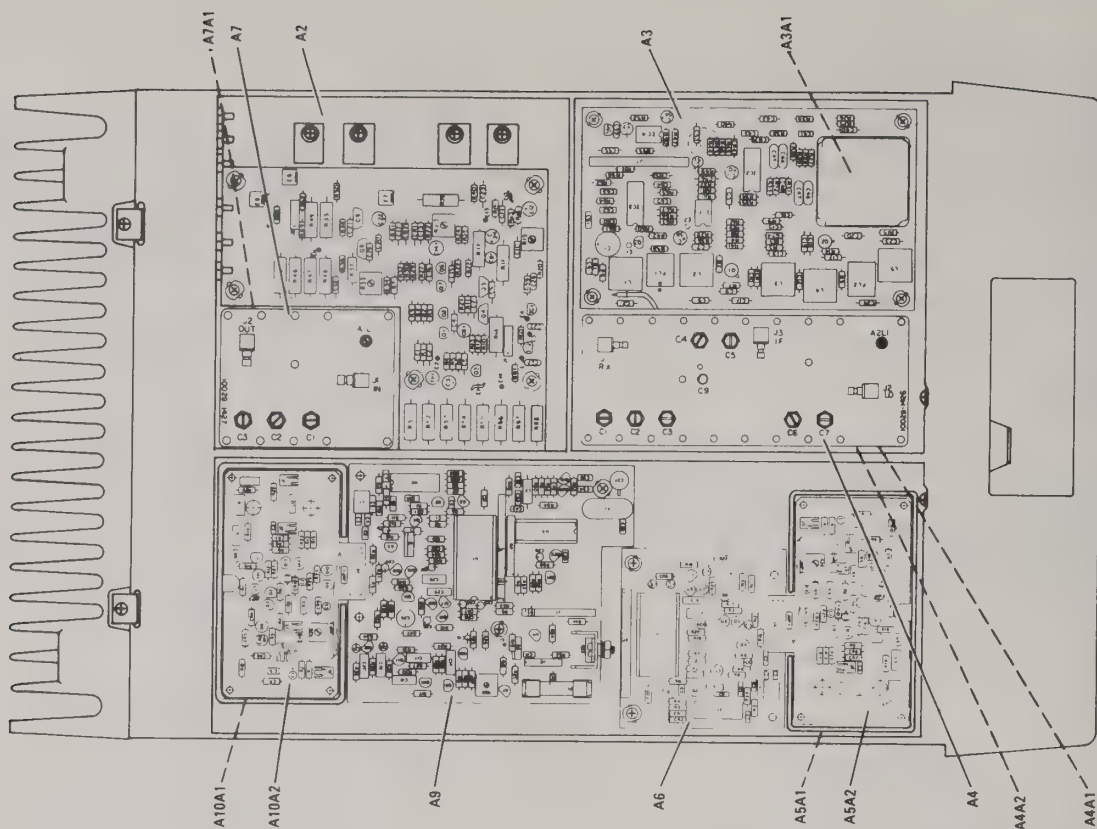

Figure 4-3. UHF Transceiver, Modules and Board Assemblies
4.03 Figures 4-3 and 4-6 identify and locate the Modules and Board Assemblies in the UHF and VHF Transceivers.